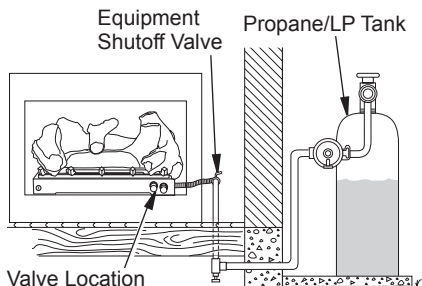
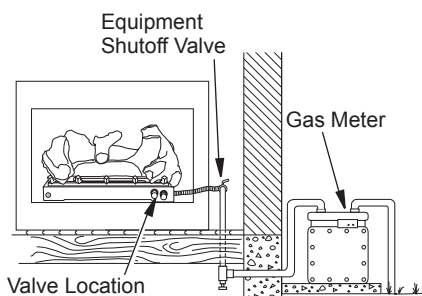

Figure 16 - Checking Gas Joints
Figure 17 - Checking Gas Joints
3. Check all joints from propane/LP supply tank to equipment shutoff valve for propane/LP gas (see Figure 16) or from gas meter to equipment shutoff valve for natural gas (see Figure 17). Apply noncorrosive leak detection fluid to gas joints. Bubbles forming show a leak.